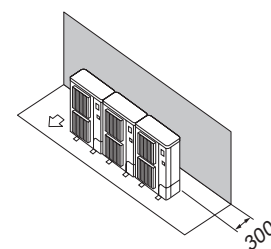

Fig. 3-12
- Obstacles at rear only (Fig. 3-12)